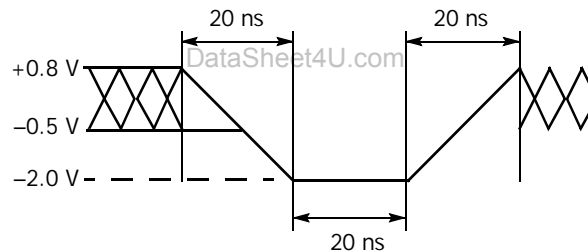
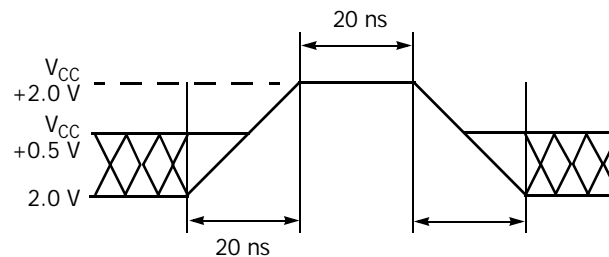

Figure 7. Maximum Negative Overshoot Waveform
Figure 8. Maximum Positive Overshoot Waveform
1. Minimum DC voltage on input or I/O pins is −0.5 V. During voltage transitions, input or I/O pins may overshoot V_{SS} to −2.0 V for periods of up to 20 ns. See Figure 7. Maximum DC voltage on input or I/O pins is $V_{CC} + 0.5$ V. During voltage transitions, input or I/O pins may overshoot to $V_{CC} + 2.0$ V for periods up to 20 ns. See Figure 8.
2. Minimum DC input voltage on pins A9, OE#, and RESET# is −0.5 V. During voltage transitions, A9, OE#, and RESET# may overshoot V_{SS} to −2.0 V for periods of up to 20 ns. See Figure 7. Maximum DC input voltage on pin A9 is +12.5 V which may overshoot to 14.0 V for periods up to 20 ns.